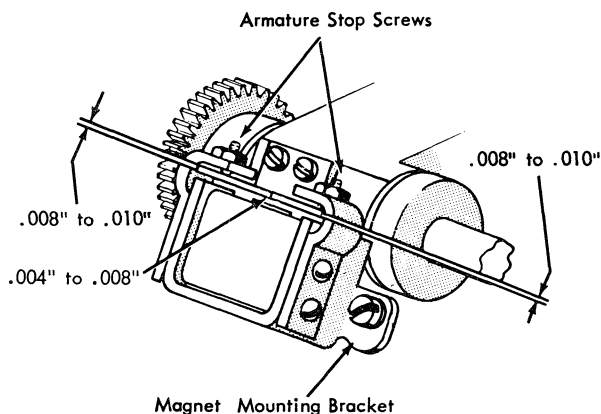

Figure 1-12. Auxiliary Transport Adjustment
1. Shim the magnet to obtain armature-to-core clearance of 0.004" to 0.008", with the armature seated against the yoke (Figure 1-12).
3. Adjust the two armature stop screws to allow armature travel of 0.008" to 0.010", measured between the yoke and each armature end (Figure 1-12).